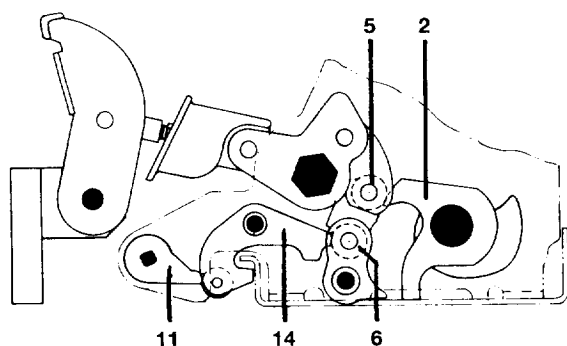

FIG. 10A CLOSED
Figures 10A, 10B and 10C show the mechanism components in the Closed, Tripped and Reset positions. The closing spring is in the charged position for all of these details.
**Closed Position** — As shown in Fig. 10A, the movable contacts are pushed against the stationary contacts by the toggle linkage. The toggle linkage is held in position through the engagement of its cam rollers, item no. 5, with the prop, item no. 2 and the secondary latch/roller item #6 and secondary latch #14 and trip latch #11.
The breaker closes when the closing spring discharges and rotates the cam item #3 against the cam roller item #5. The toggle linkage is fully extended, pivoting the secondary latch from the front frame and engaging it with the trip latch and cam roller as shown in Fig. 10A.